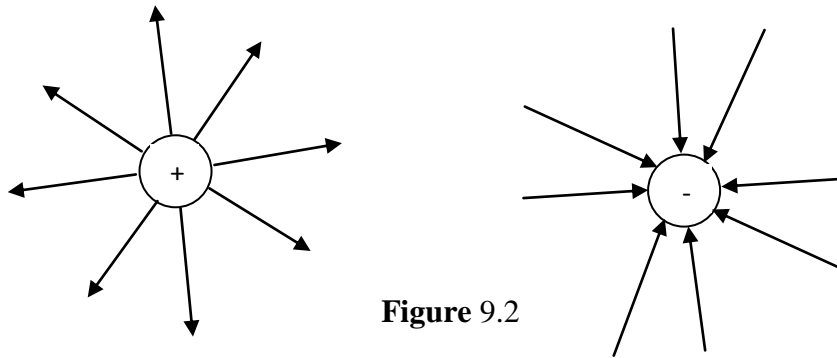

Figure 9.2
*It is the path along which the isolated charge moves in electric field if it is free to do so.* These are imaginary continuous line in an electric field such that tangent to it at any point gives the direction of electric force at that point (Fig. 9.2).